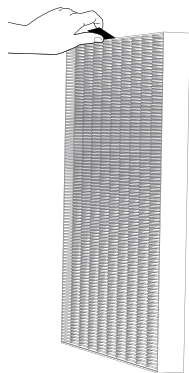

Fig. 1
3. Remove the Plastic Support Filter Frame by pulling on the center tabs (A). You may need to flex the Plastic Support Filter Frame slightly to release the tabs at the top and bottom.
- 4.** Remove and discard used Filters. Simply take hold of the Carbon Filter at any place along the perimeter and remove. To remove the HEPA Filter, take hold of the tab (Figure 1) and pull to release. Replace with genuine Vornado Filters. Place the Filters in the unit and gently press around the perimeter of the Filter to ensure secure placement (Figure 2).